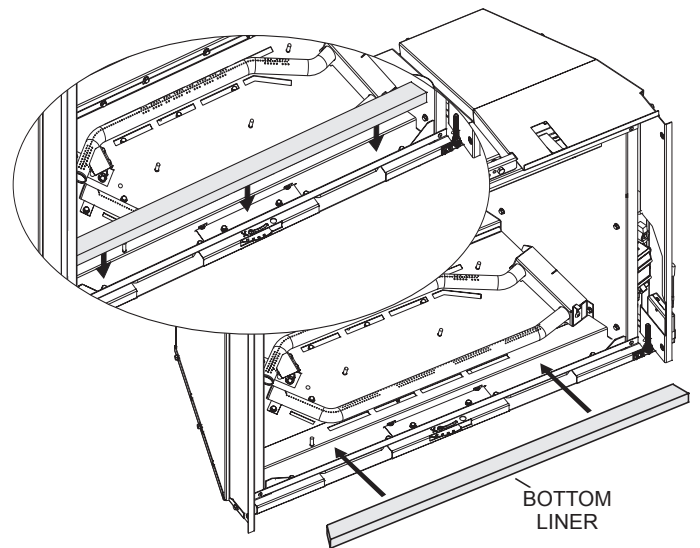

Figure 7
8. Place bottom liner as shown. See **Figure 7**.